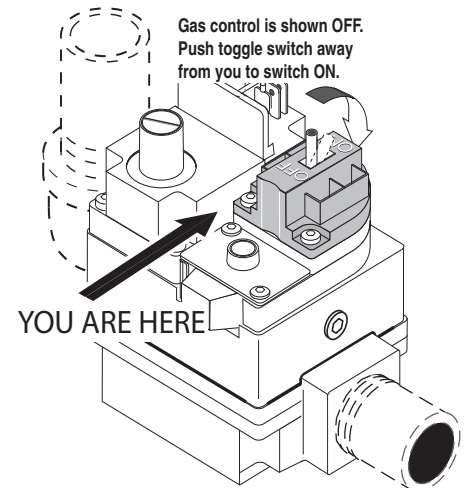

Figure 37.
6. **Toggle-Style Valve:** Pull toggle toward you to turn gas off, see Figure 37.
7. Wait five (5) minutes to clear out any gas. If you then smell gas, **STOP!** Follow “B” in the “Before Start-up” instructions (page 42). If you don’t smell gas, go to the next step.
4. **Toggle-Style Valve:** Pull toggle toward you to turn gas off, see Figure 37.